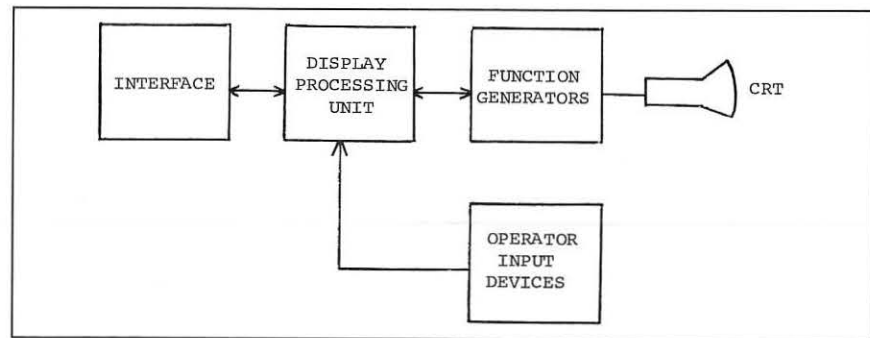

Figure 5. Unlimited Graphics/No Buffer
4. *Unlimited Graphics/No Buffer* (Figure 5)